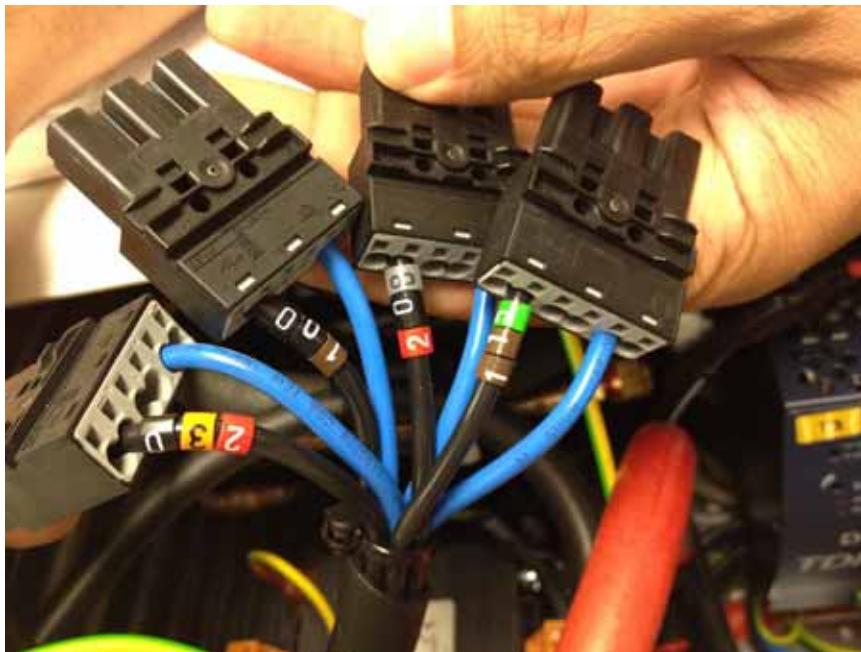

Figure 1.2-3. P307 Chiller Voltage Inputs (230VAC plug shown connected)
5. Check that the correct voltage plug is attached to the internal connector (see Figure 1.2-3 below). To change the input voltage detach the plug from the internal connector, detach the